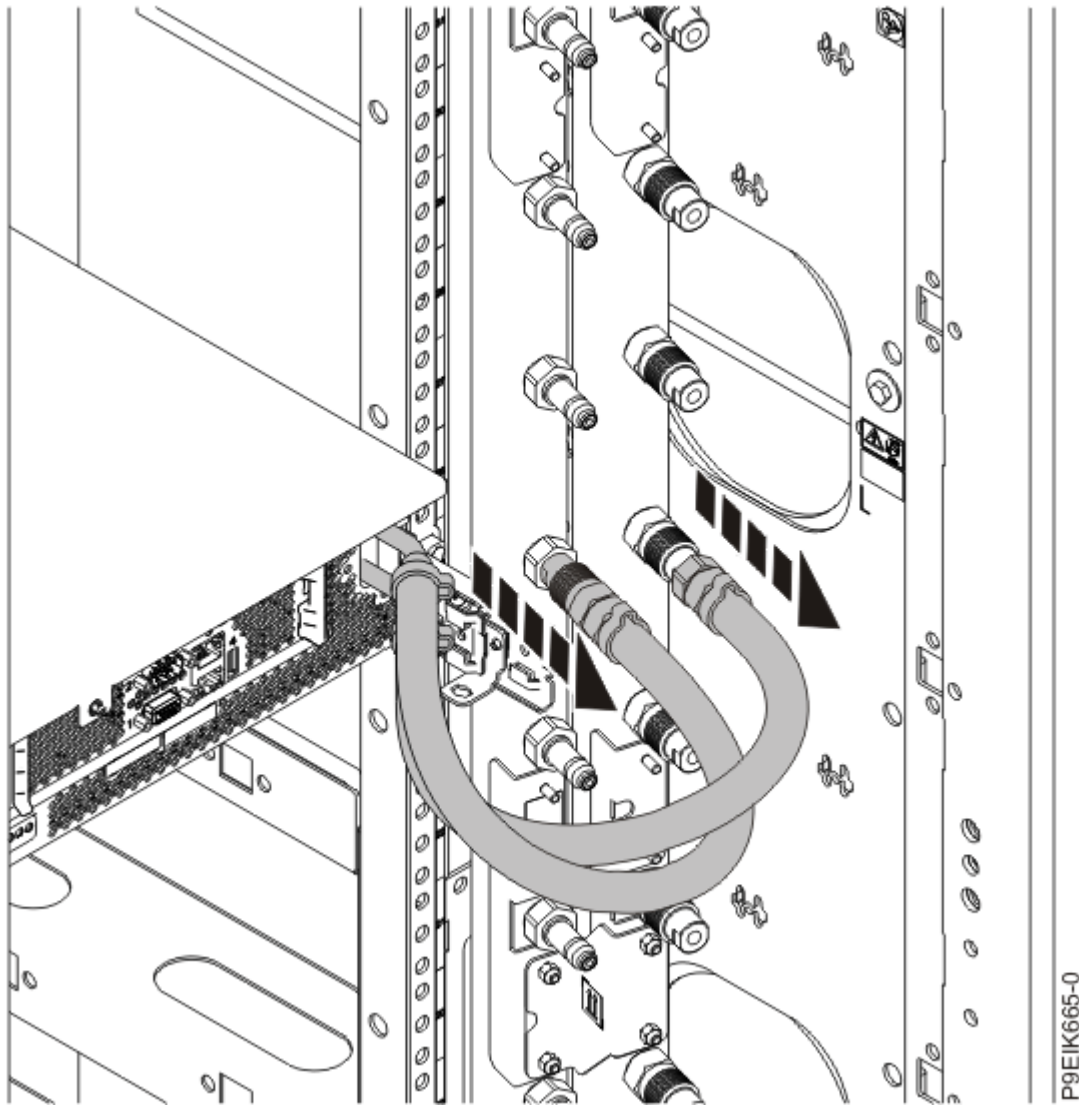

Figure 32. Disconnecting the water hoses
2. For a water-cooled system, label and disconnect the water hoses at the manifold. Pull the coupling toward you to disconnect the water hoses as shown in Figure 32 on page 45.